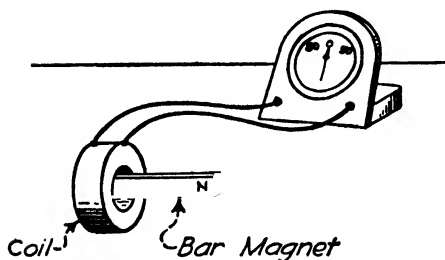

FIG. 129. One form of induction. A current is induced in the coil only when the bar magnet is moved.
Step 1. Connect the ends of a coil consisting of about 50 turns of fine insulated magnet wire to a 50-0-50 direct-current microvoltmeter (see Fig. 129).
FIG. 130. Another form of induction. You can substitute an electromagnet for the permanent bar magnet in Fig. 129 and induce a current in the secondary coil. Try it and watch the meter.